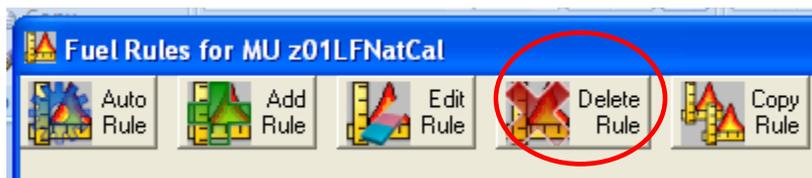

Figure 7-29. **Delete Rule** option.
- Delete rules by selecting to highlight the rules you would like to delete and then clicking on the **Delete Rule** icon near the top of the screen (fig. 7-29).